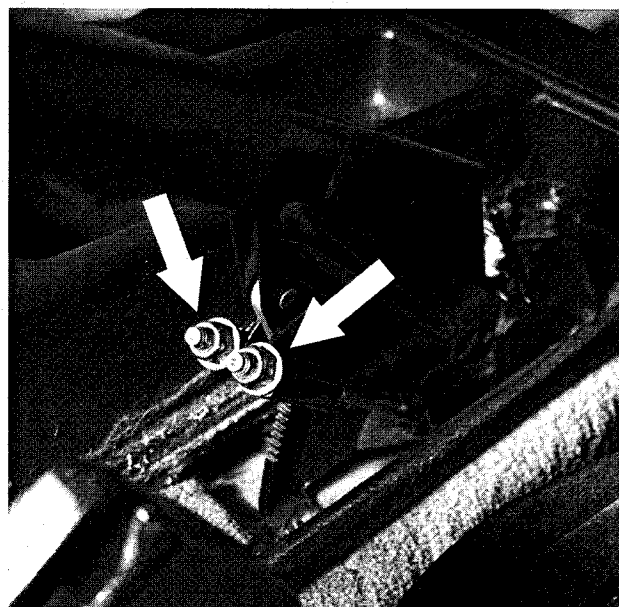

Fig. 15. Parking brake cable adjusting nuts (arrows).
1. Lift parking brake lever boot out of console. While holding cables stationary, loosen parking brake cable nuts until cables are completely slack. See Fig. 15.
3. Working inside car, lift parking brake lever boot out of console. Remove cable adjusting nut. Refer to Fig. 15.